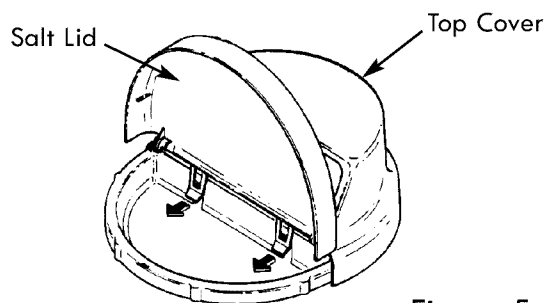

Figure 5
4. Remove the top cover. Remove the salt lid first and then pull outward on the two tabs to release top cover (see Fig. 5). Set both covers aside so they will not get scratched or broken.
After installing your water softener, put the covers on. Angle the covers so the top cover clips onto the back first, then bring down in front and clip on the tabs inside the rim and lower the salt lid closed (See Fig. 5).